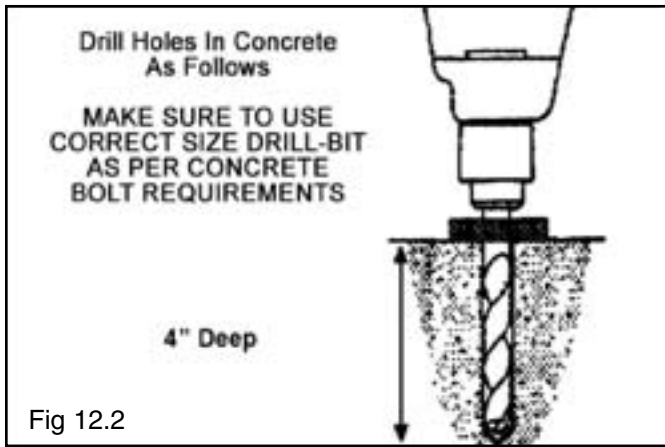

Fig 12.2
3. Using the Foot Pad as a guide, drill each anchor hole in the concrete (approximately 4" deep) using a rotary hammer drill and 3/4" concrete drill-bit. To ensure full holding power, do not ream the hole or allow the drill to wobble. (See Fig. 12.2)